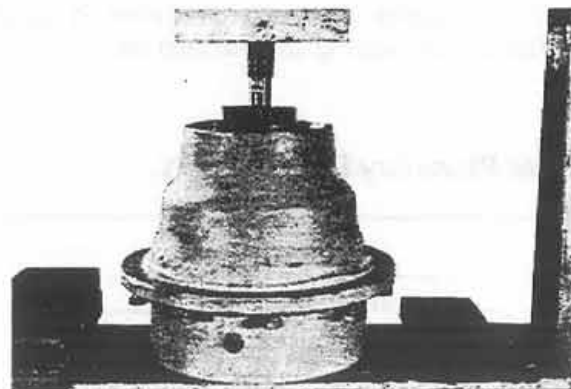

Figure 14:
Step 14. Remove the ring gear support seal shouldering ring and rear taper roller bearing by pressing (pushing) on the stationary carrier. This will require at least a 10 ton press. Place the outer end of the hub "down" on a press table and push out stationary ring gear carrier as shown (Fig. 14). Place a wooden block under the carrier to prevent damage to the carrier or bearing when it presses free from the hub.
Step 15. The inner bearing may be removed from the carrier by the use of an O.D. bearing puller, or it may be "pushed" off by threading bolts through the carrier flange holes and pushing against the inner race of the bearing. Place bolts equal distance apart on the flange, turn bolts down alternately and evenly a little at a time (Fig. 14).